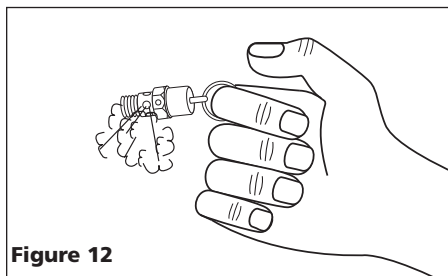

Figure 12
- b. Wearing safety glasses, pull the ring on the safety valve to release pressure from compressor tank. Protect yourself from fast-moving air being released; do not allow fast-moving air to be directed toward your face (See Figure 12).